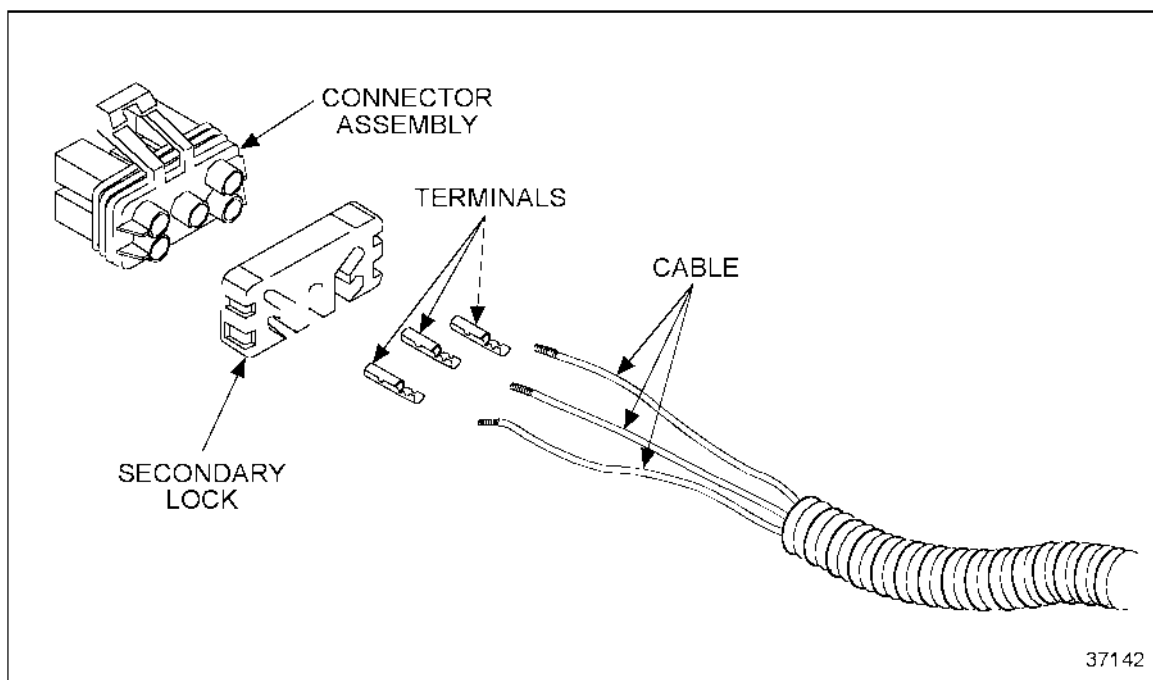

Figure 3-35 Typical Push-to-Seat Terminal Installation
9. Insert terminals into connector and push to seat (see Figure 3-35). Insert the secondary lock(s) to position and secure the assembly.